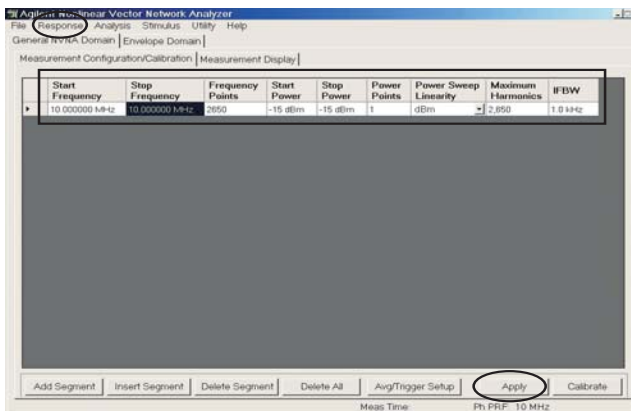

Figure 4-3 NVNA main menu
- 4 Click **Response** and select **Couple Segment** from Agilent Nonlinear Vector Network Analyzer main menu as shown in Figure 4-3.